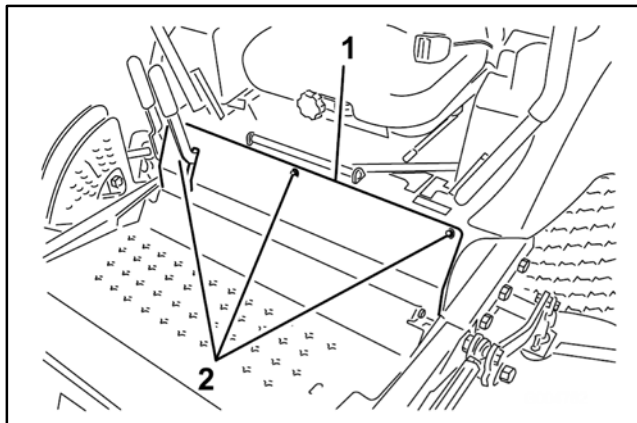

Figure 12
The Groundsmaster 7200 and 7210 use two (2), identical neutral switches. These neutral switches are normally open and close when the traction levers are in the neutral locked position. The neutral switches are located under the front panel beneath the operator seat (Figs. 12 and 13).